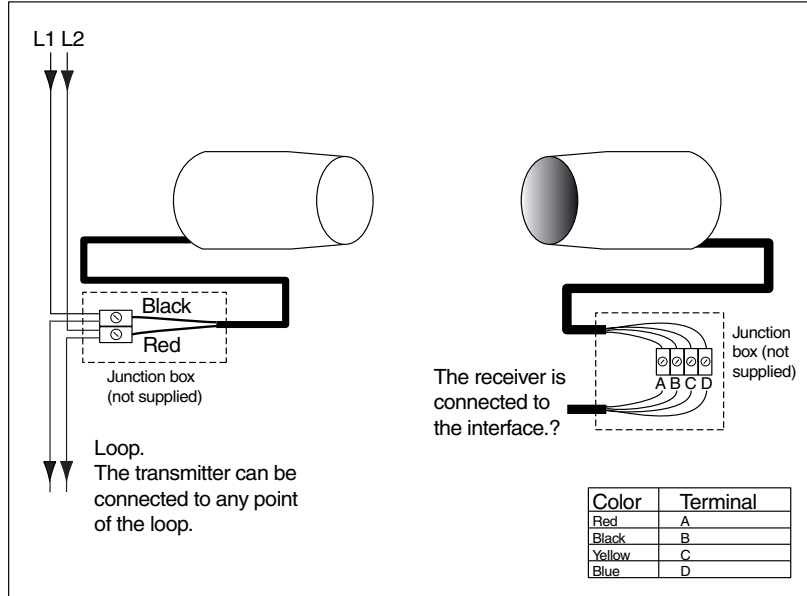

Fig 6 Wiring diagram for beam detector
6. Install all cables and connect as shown in Fig 6. Heads are supplied with 1m of cable and this should be correctly terminated with the system wiring. Connect the transmitter and receiver heads to ground, using an M5 crimp connector attached to one of the two horizontal adjustment bolts of the mounting bracket.